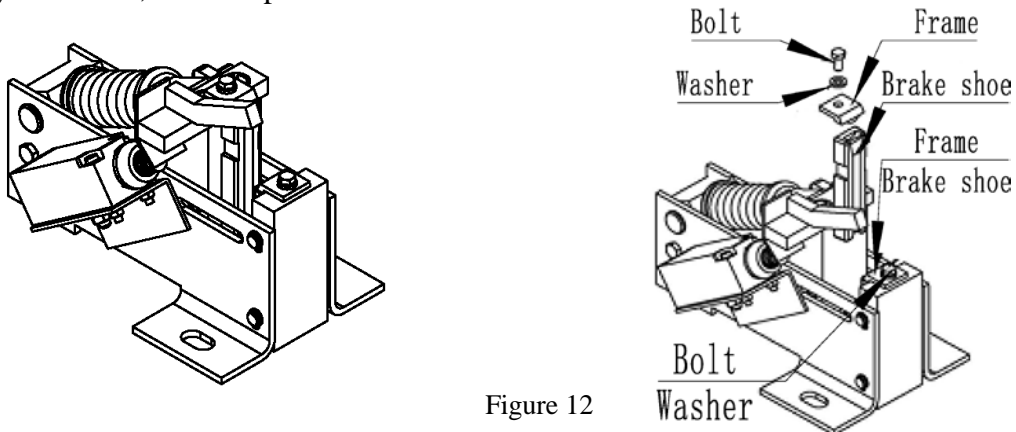

Figure 12
3.1.9.2 Replacement of brake shoe, as fig.12 shown,